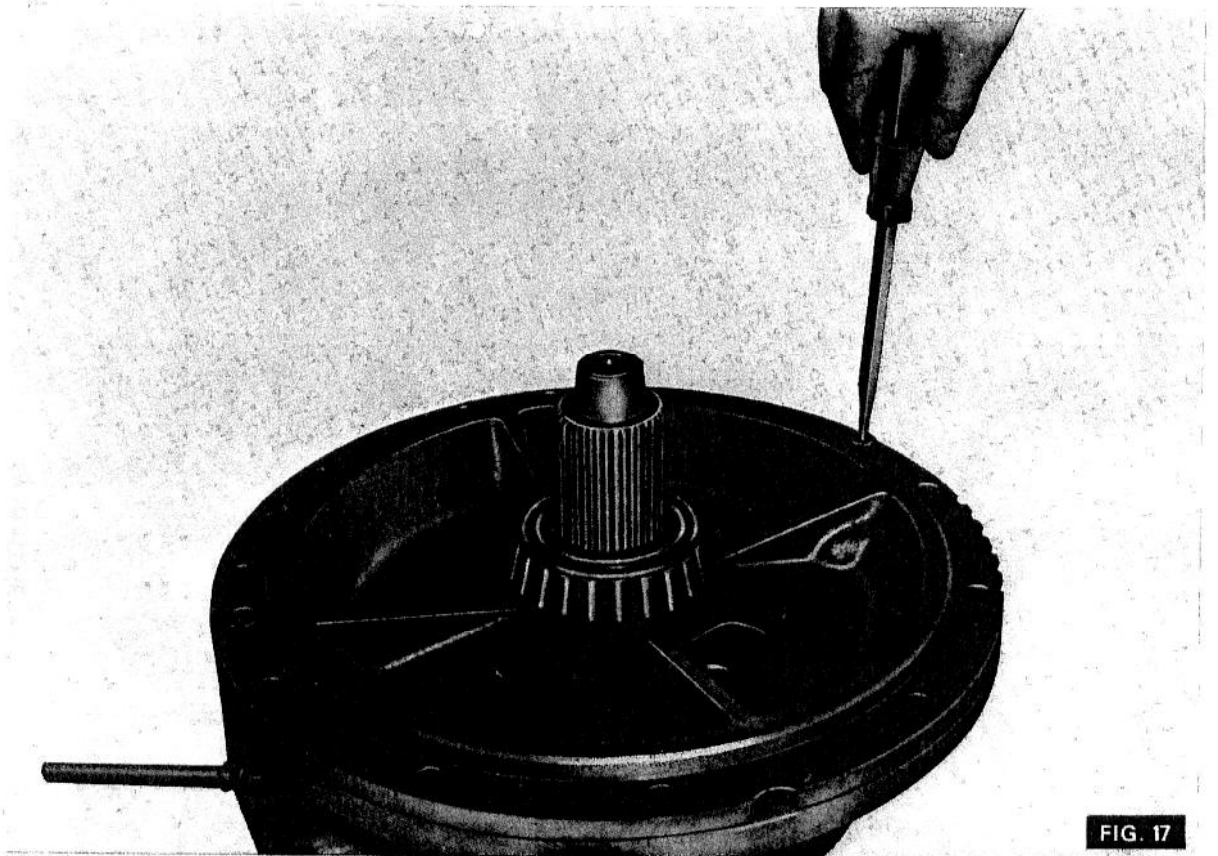

FIG. 17
3. (Fig. 17) Remove the two countersunk screws which secure the carrier plate to the housing.